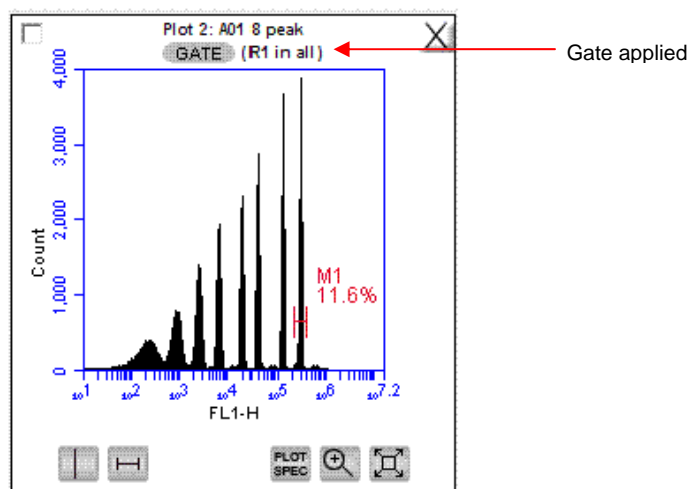

Figure 3-11. Gate Applied to 8-Peak Bead Plot
- Verify that the next three plots (FL1-H, FL2-H, and FL3-H) are gated on scatter region R1 and that the plots display the message *R1 in all* next to the *GATE* button (Figure 3-11). If it is not displayed, click on the *GATE* button and select *R1 on all events* from the pop-up dialog box (for information about gates, see section 4.7).